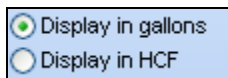

Figure 34.0.8
- In the **Display style** section click on the appropriate box for the following (Figure 34.0.8).